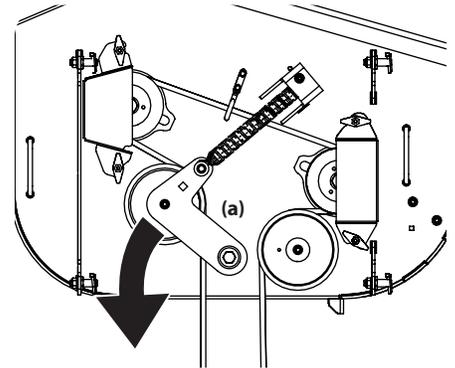
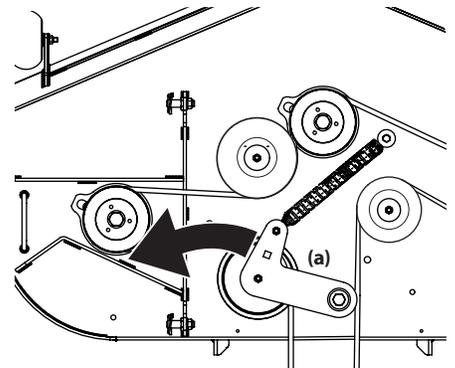

Figure 4-11
Figure 4-12
- Using a 1/2" drive in the idler pulley bracket (a), turn the wrench counter-clockwise and slide the deck belt off the PTO pulley. See Figure 4-11 for 36" decks and Figure 4-12 for 48" and 54" decks.